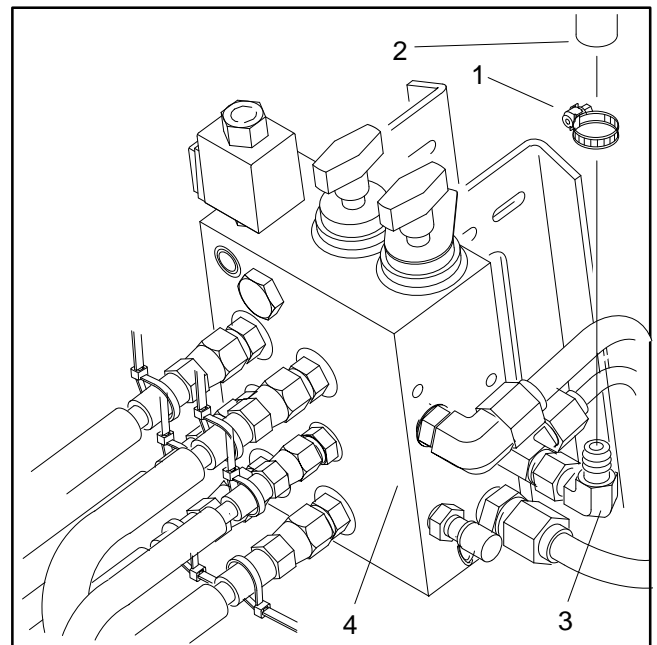

Figure 21
B. Loosen hose clamp (1) and disconnect hydraulic supply hose (2) from the hydraulic elbow fitting (3). Plug hose and fitting to prevent leakage and contamination (Fig. 21).
- A. Position muffler (14) and muffler gasket (45) onto the exhaust manifold. Install capscrews (39) and flat washers (11) to the muffler and exhaust manifold. Tighten cap screws.
- B. Reinstall cap screws (36) and washers (13) into the muffler and right rear mount bracket (46).
- C. Slide muffler tube through the U-clamp (17). Connect muffler tube to the muffler. Tighten nut (20) and U-clamp.
- D. Reinstall muffler clamp (19) to the muffler (14) and muffler tube (15).
- A. Unplug hydraulic hose (2) and hydraulic elbow fitting (3). Connect hydraulic supply hose to the hydraulic elbow fitting. Tighten hose clamp (1) (Fig. 21).